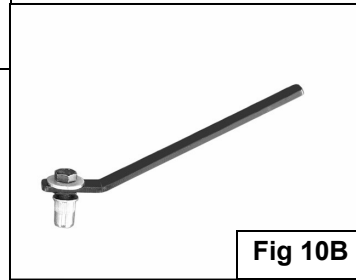

Fig 10B
11. Assemble the Threaded Insert installation tool as pictured in Figure 10B. Hold the handle and push the insert into the drilled hole in the pinch weld. NOTE: Insert must fit snug in hole. If necessary, use a small hammer to carefully tap the insert into the hole until the rim on the insert is flush against the pinch weld. Firmly hold the tool handle and tighten the hex bolt in the tool to expand the insert in the hole. Continue until threads are flush with the top of the insert, (Figure 10C). Remove the tool and hardware. Bolt the Support Bracket to the threaded insert with (1) M8 Hex Bolt, (1) M8 Flat Washer and (1) M8 Lock Washer, (Figure 11). Tighten hardware at this time. Torque all M12 fasteners to 50-55 ft lbs. M10 to 35-40 ft lbs, and M8 to 25-30 ft lbs